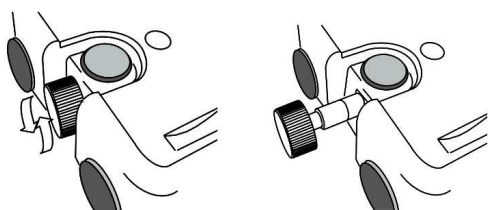

Fig.1
1. Turn the knob of BSP (Built-in spring plunger) anti-clockwise to (partly) draw BSP out of the cart body. The length of drawn BSP out is freely adjustable., while BSP has equally spaced shallow cuts (grooves) on its surface as a guide to know the length of drawn BSP out. (Note that BSP will be removed from the cart body if you continue to turn the knob. Refrain from doing so). Draw BSP at an appropriate length for your experiment because the length of drawn BSP out determines the magnitude of launch power (pushing power) (See Fig.1).